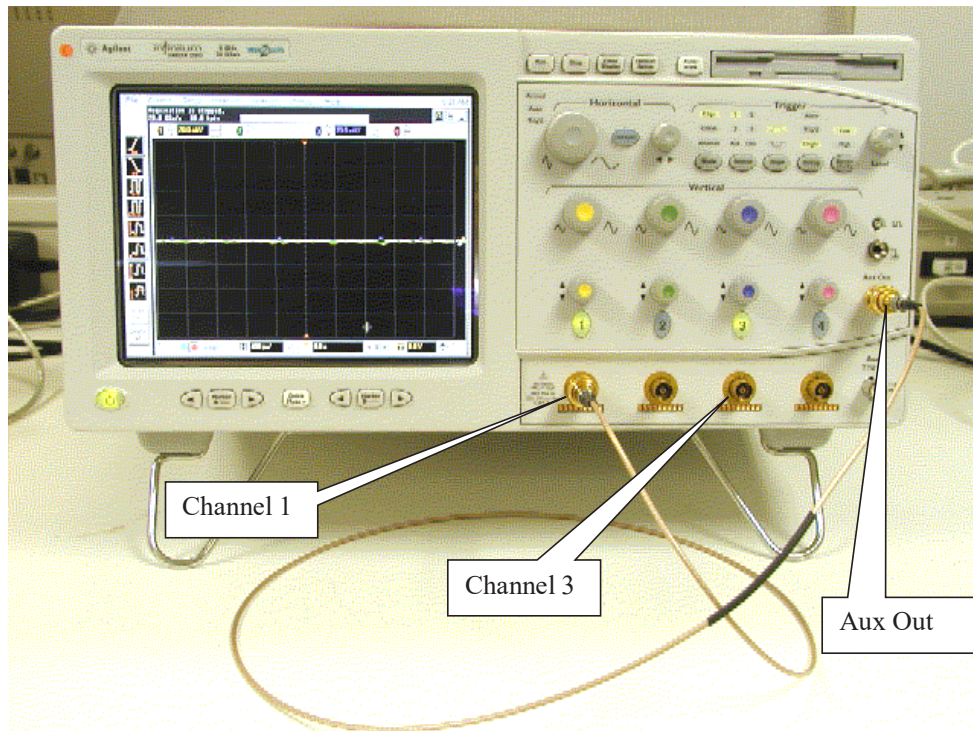

Figure 7 Vertical Input Calibration Connections (Cable on Channel 3 not shown).
- 1 Referring to the Figure 7 below, perform the following steps:
- 13 Referring to Figure 7 on page 580, perform the following steps: